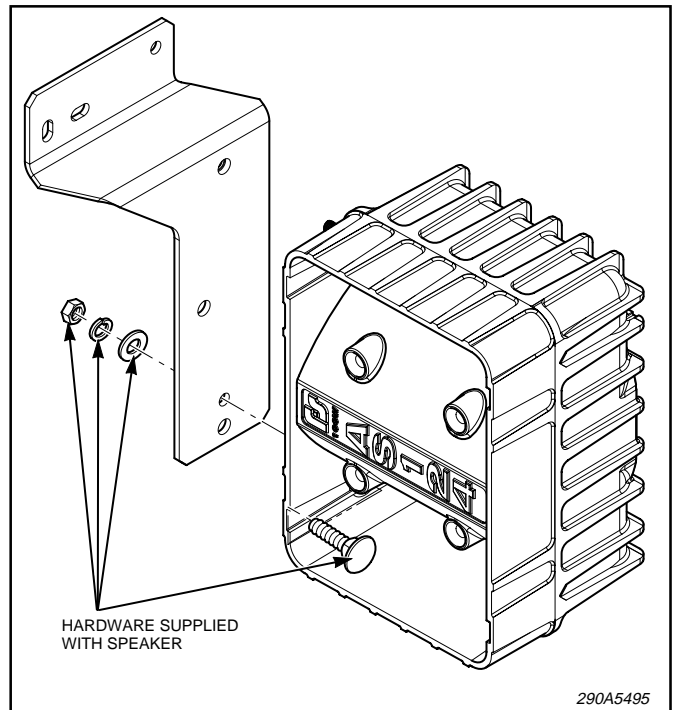

Figure 2.
- a. See figure 2. Attach speaker to brackets as shown using hardware supplied with the speaker.